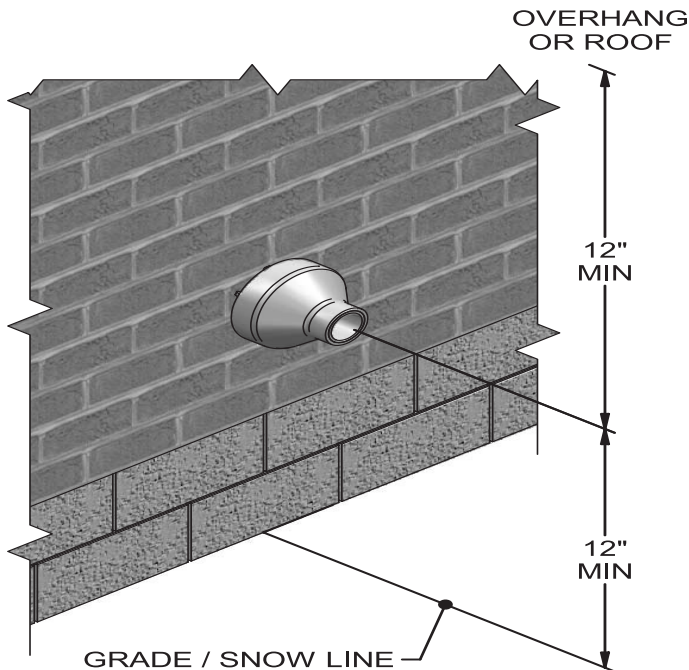

Figure 35. Concentric Sidewall Termination
A. O. Smith offers optional concentric combustion air and vent pipe termination kits (Factory Kit #100274637 for 3" diameter - Models 150 - 200 and #100274638 for 4" diameter - Models 285 - 600). Both combustion air and vent pipes must attach to the termination kit. The termination kits must terminate outside the structure and must be installed as shown below in Figure 35.
NOTE: Ensure termination location clearance dimensions are as shown in Figure 35.